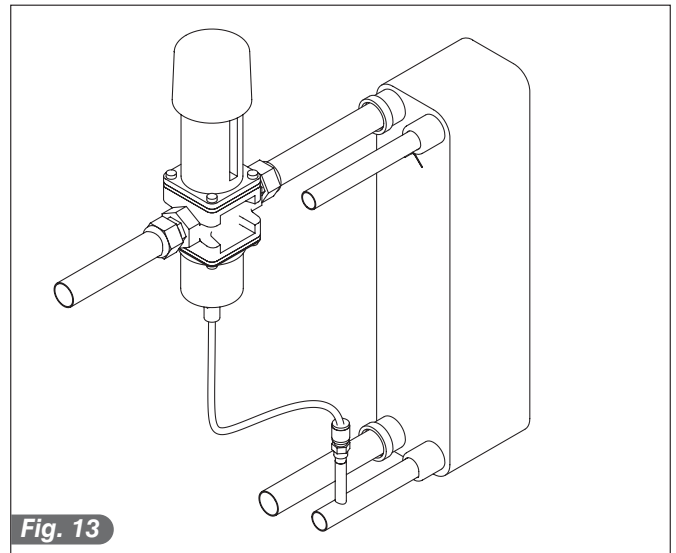

Fig. 13
- During inspection of the water network, with the machine stopped and the water mains ready, check that the drain tube of the condenser does not leak water. If it does, adjust the pressure switch valve until leaking stops (Fig.13).